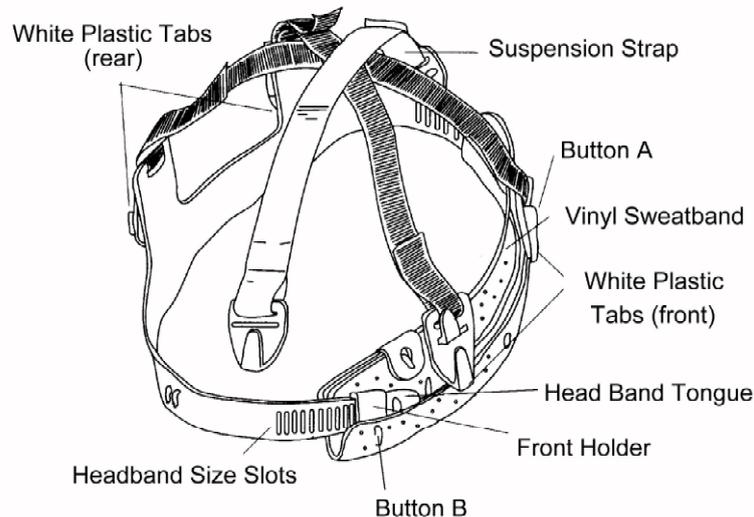

Figure 2 Suspension Assembly
(3) Unfasten the vinyl sweatband	<ul style="list-style-type: none"> - Unfasten the vinyl sweatband from the two lower outside bottoms (A and B in Figure 2)
(5) Fasten vinyl sweatband	<ul style="list-style-type: none"> - Fasten the vinyl sweatband onto the buttons of the suspension (bottoms A + B in Figure 2)
(1) Place the middle lens on a clean flat surface. Place up to three cover lenses on top of it.
(2) Bend the straps of the two upper lenses to the top and the strap of the bottom lens down. (see figure 2)
(3) Open the visor frame and remove the cover lens respective the remaining rest of the perforated mylar lenses.
(4) Place the mylar lenses together with the cover lens on the inner lens so that the straps of the mylar lenses come through the visor frame.
(5) Hold the lenses and close the visor frame.
To replace the suspension or adjust suspension, see section 7.2. (and figure 2)